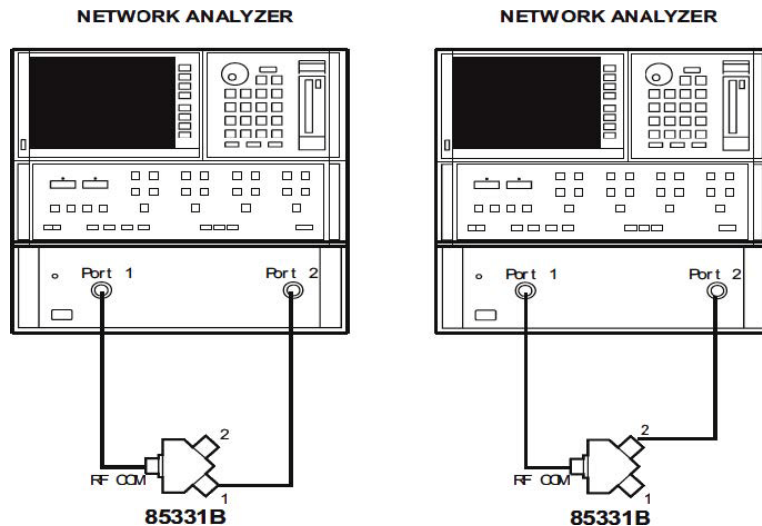

Figure 2-1 Connection to perform quick check
- 1 Connect RFCOM to Port 1 of the network analyzer and either RF1 or RF2 to Port 2 as illustrated in Figure 2-1.
- 3 If RF2 is connected to Port 2, apply -7 Vdc to Pin 2 of bias connector (Refer to Figure 2-1) and +6.3 Vdc to Pin 1.